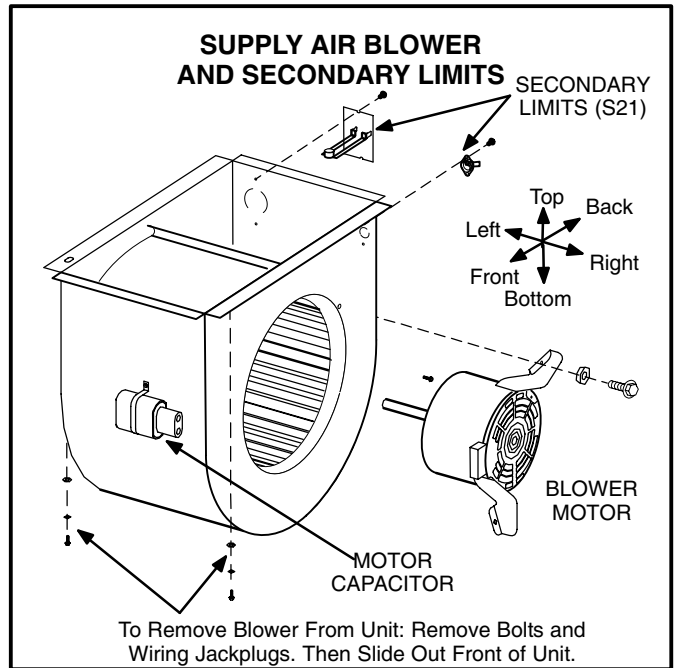

FIGURE 6
The secondary limit switches [(1)S21 and (2)S21] on G27M units are located in the blower compartment on the back side of the blower housing (see figure 6). When excess heat is sensed in the blower compartment, the limit will open. If the limit is tripped, the SureLight control energizes the supply air blower and closes the gas valve. The limit automatically resets when unit temperature returns to normal. Two limits are supplied in each furnace. Figure 7 shows both switches. Both switches are N.C. SPST auto-reset switches which actuate on a temperature rise. The switches are factory set and cannot be adjusted. The (1)S21 limit shown on the top opens at 140°F ± 5°F (60.0°C ± 2.8°C) on a temperature rise and closes at 110°F ± 10°F (43.3°C ± 5.6°C). The (2)S21 limit shown on the bottom opens at 165°F ± 5°F (73.9°C ± 2.8°C) on a temperature rise and closes at 135°F ± 8°F (57.2°C ± 4.4°C).